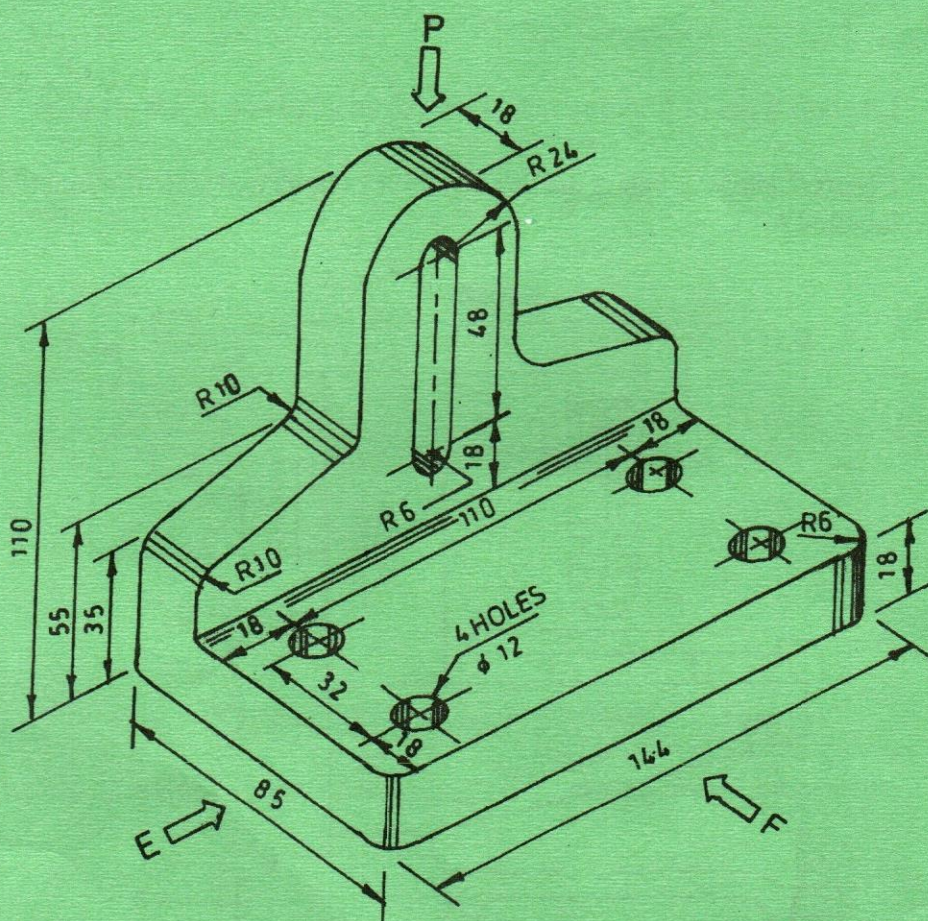

Fig. 2
5. Figure 2 shows a machined block. Draw in third angle projection, showing hidden details, the following views: